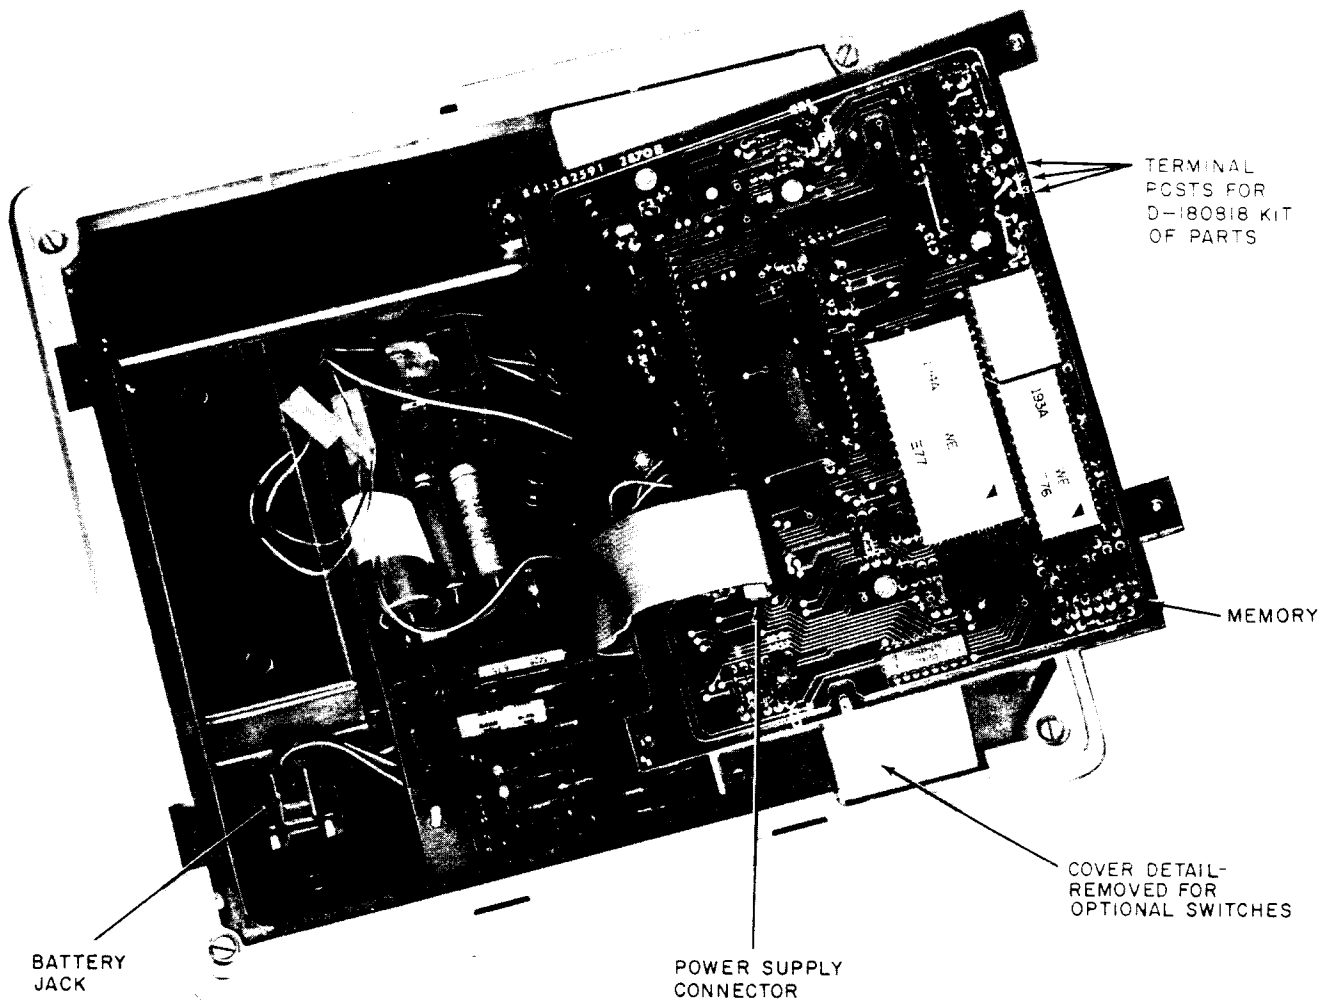

Fig. 4—2870A1 Dial, Internal View
- (5) Connect per Table B.
- (6) Break off the detail at the bottom of the cover (Fig. 4) and trim edge as required.
(7) Verify correct operation of option.
(8) Reassemble.
- (5) Rotate the left edge of the Memory upward as shown in Fig. 4.